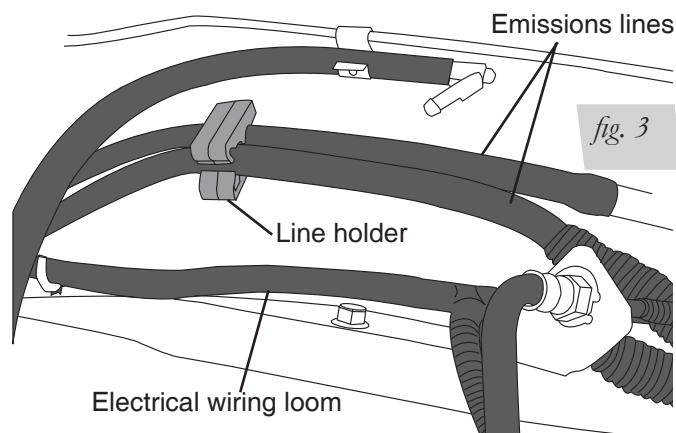

fig. 3
If your model truck has emission lines running along the inside of the frame rail (fig. 3), it will be necessary to relocate those lines as follows:
- Carefully push the line holder out of the frame above the axle. Try to minimize damage because it will be reused later. It may also be helpful to remove any holders forward or rearward of the axle to aid in positioning the lines once the upper bracket has been installed (fig. 3) .